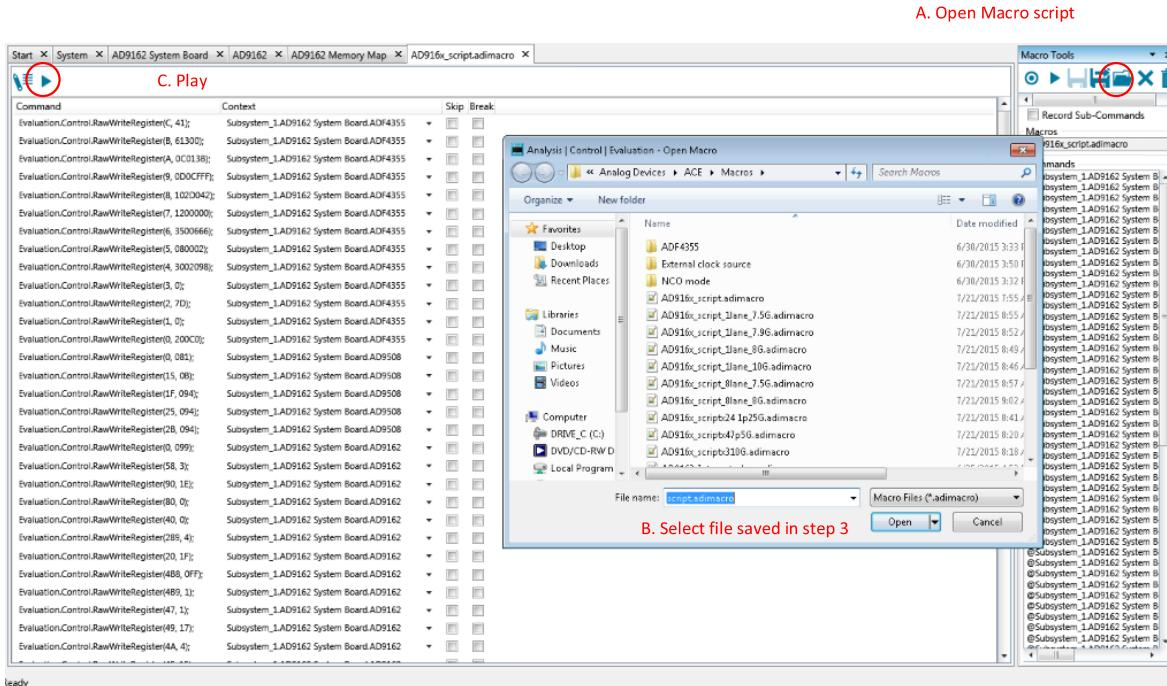

Figure 8. Run Macro Script
5. Press the “Play” (right-pointing triangle) button, and all of the black register writes should turn green as they are successfully executed as shown in Figure 8.